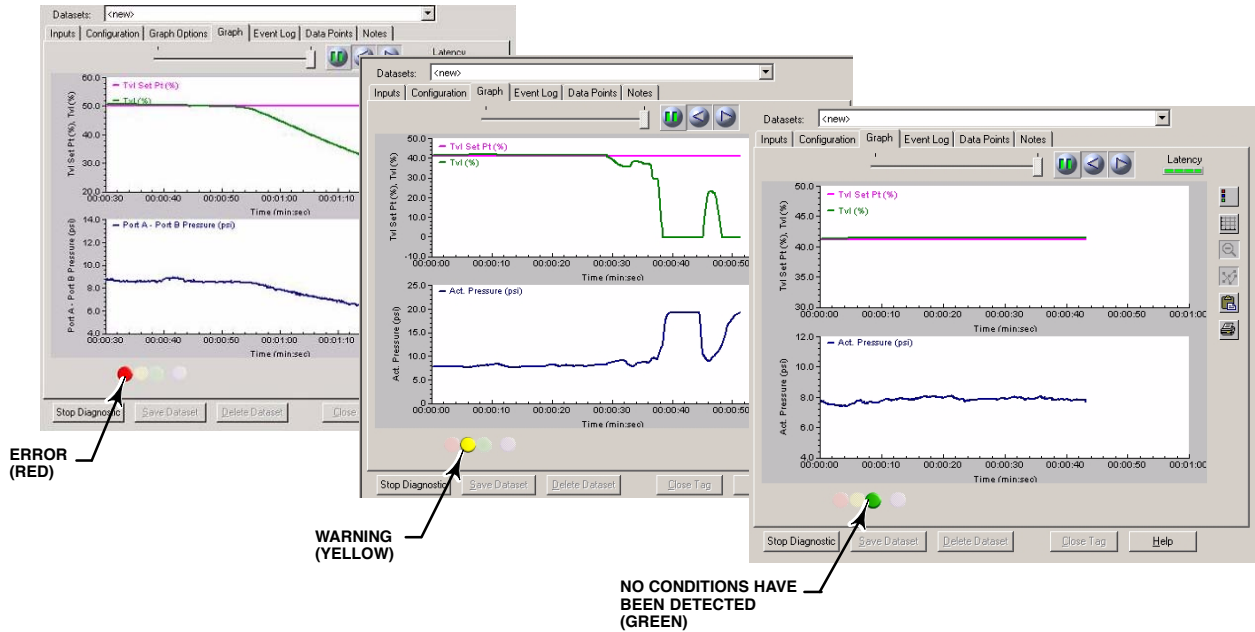

Figure 3. Red/Yellow/Green Condition Indicators, Shown in AMS™ ValveLink® Software
- Red/Yellow/Green Condition Indicator (see figure 3)